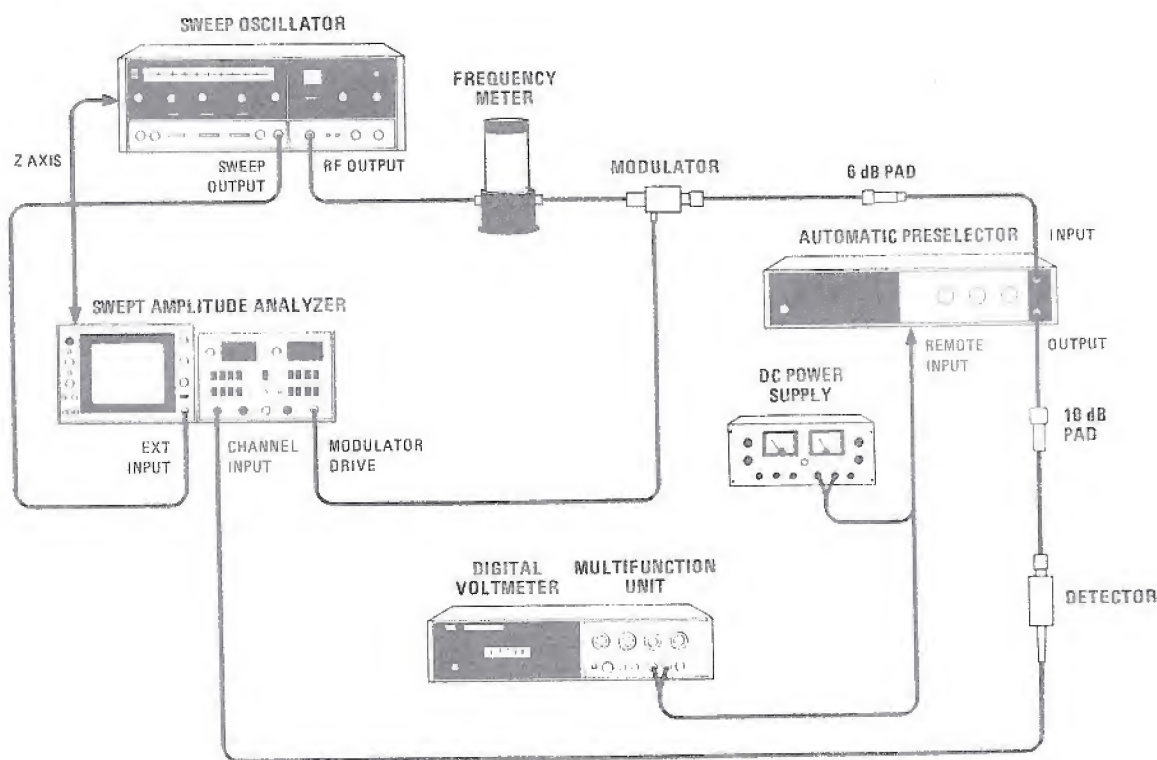

Figure 5-3. YIG Driver Adjustment Test Setup
1. Connect test setup as shown in Figure 5-3. Apply power and allow at least 30 minutes for equipment to stabilize.